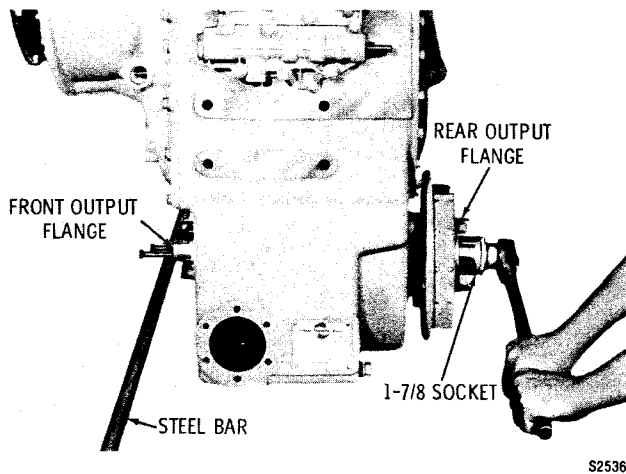
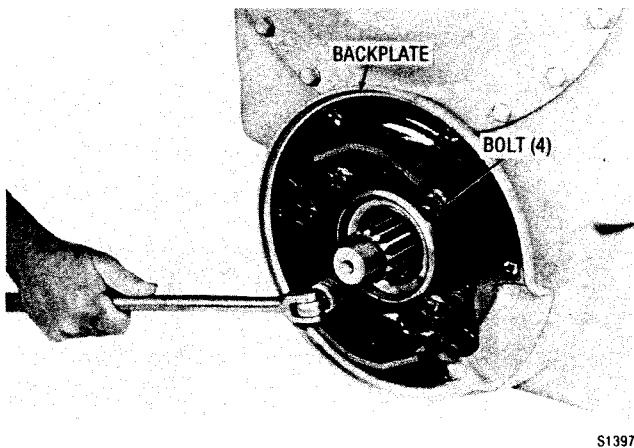

Fig. 5-6. Removing rear output flange nut
Fig. 5-7. Removing parking brake backplate bolts (-1 models)
(3) If the output flange has not yet been removed, remove the attaching hardware and flange (fig. 5-6).
(4) If the model is equipped with a front output flange, remove the attaching hardware and flange.
(5) If present, remove sealrings 3 and 37 (foldout 17,A).
(6) Remove brake shoe return springs 5 or 16 (foldout 17,B) and brake shoes and linings 4 or 15, roller 3 or 14, and cam lever 6 or 17. Remove four self-locking bolts 7 or three bolts 20 and lockwashers 21 and remove brake backplate 2, 8, or 13. Refer to figure 5-7. Remove spacer 33 (foldout 17,A), if present, from the output shaft.